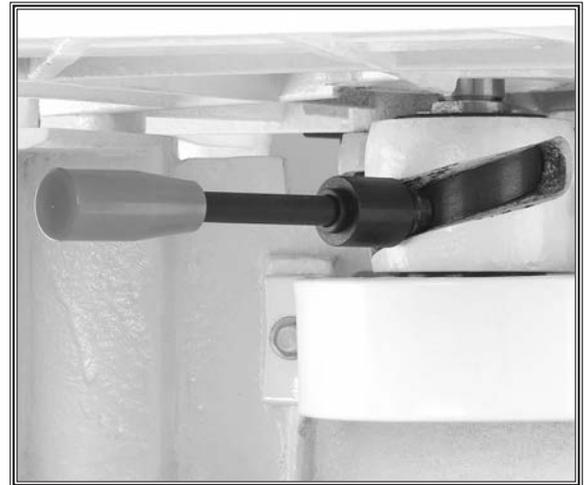

Figure 19. Spindle-height lever.
2. Move spindle height lever, shown in **Figure 19**, right to raise spindle, or left to lower spindle.